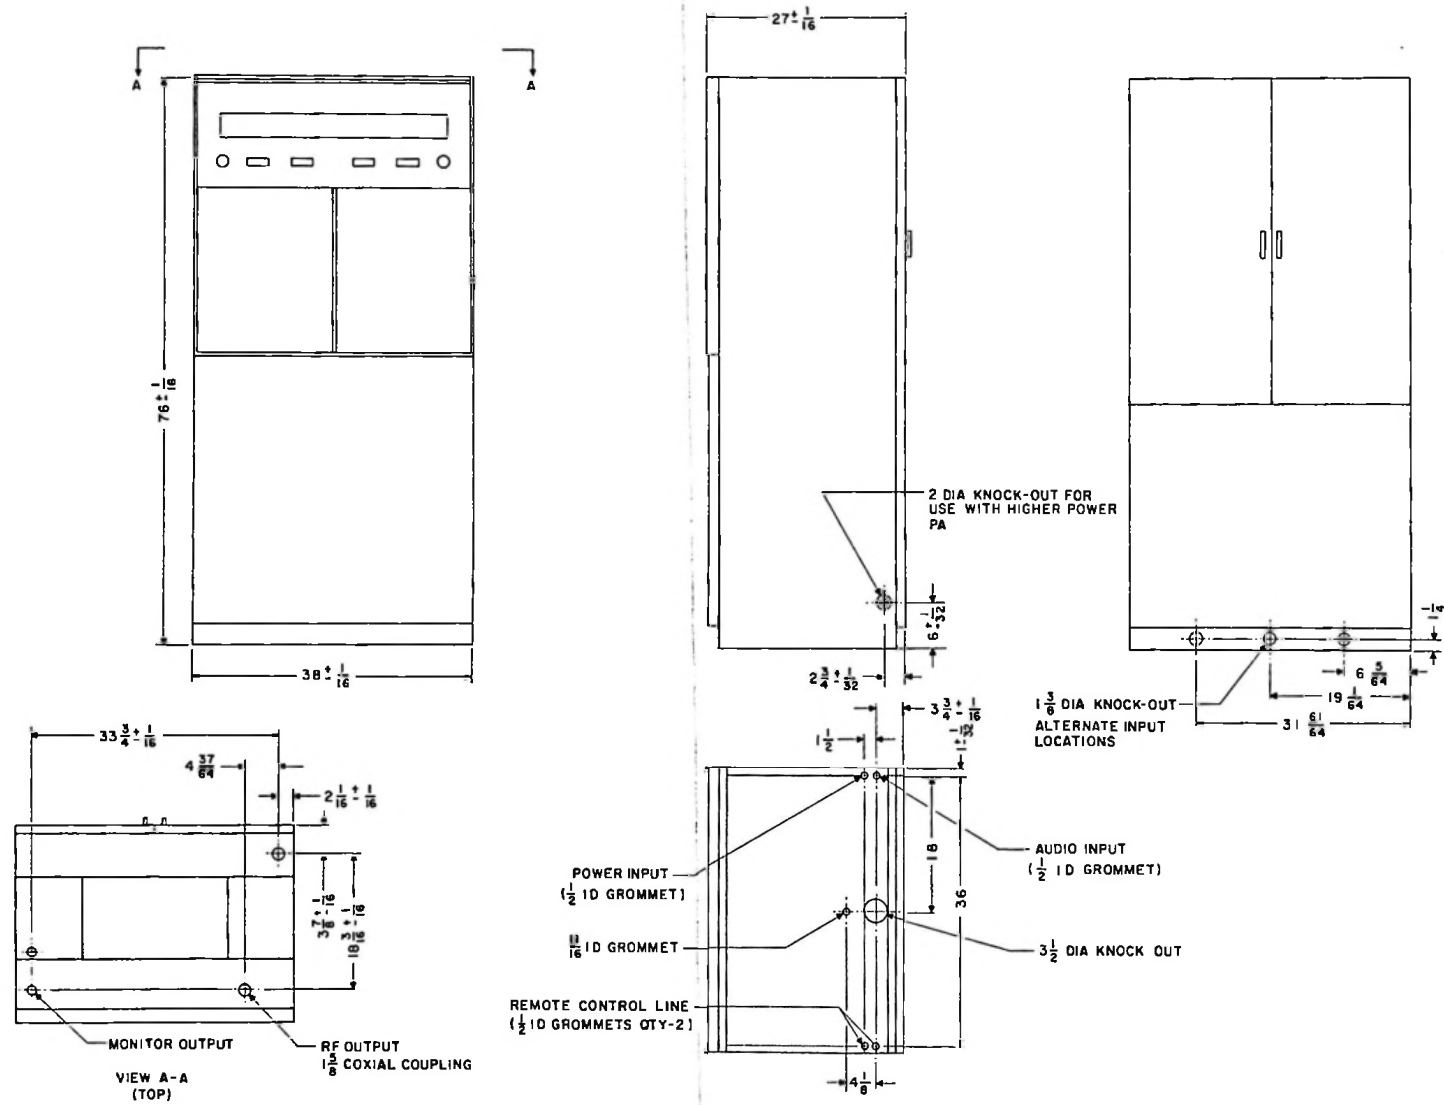

Figure 2-1. 830D-1A 1000 Watt FM Broadcast Transmitter, Outline and Installation Drawing
Plan transmitter and wiring placement carefully before starting installation work. Refer to figure 2-1, the transmitter installation diagram. This diagram shows the location of all wiring openings in the transmitter cabinet. As will be noted, several alternate wiring arrangements can be used. Select the combination that most nearly meets the station requirements.
Refer to figure 2-1 for assistance in making the following external connections.
b. Connect the FM monitor to the monitor output on the top of the cabinet. Refer to figure 2-1. Use type RG-58U coaxial cable to make this connection.